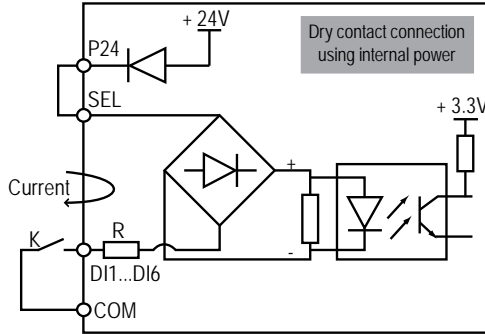

Figure 4-13 Dry contact connection when using internal 24V power
1. If the internal 24V power supply is used, the connection is as shown in Figure 4-13. (The SEL and the P24 are short-circuited at factory)